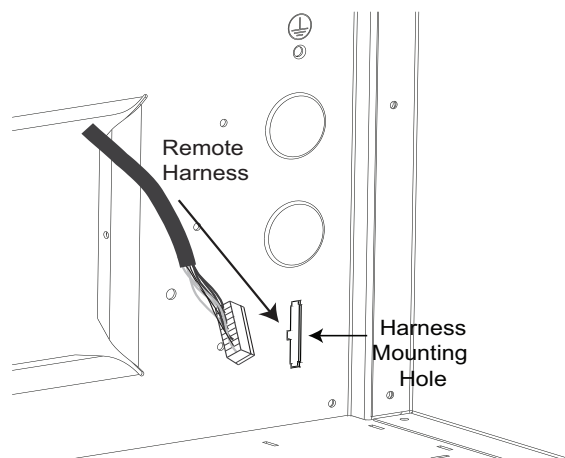

Figure 3: Remote Harness Mounting Hole
- a) Insert remote harness end into the mounting hole, as indicated in *Figure 3*, until it clicks.